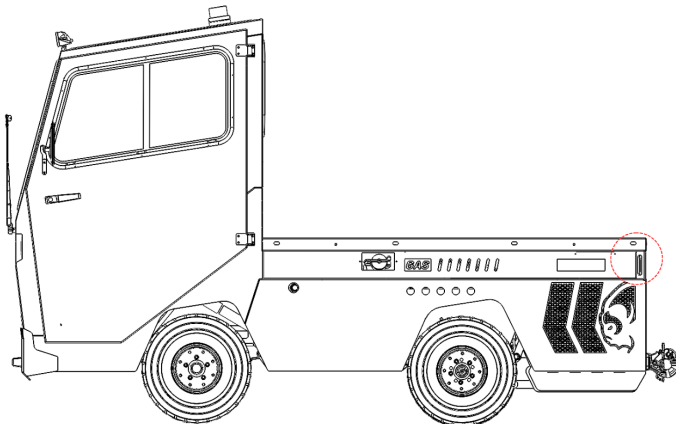

Figure 39. Side Panels.
- Side panels corners (both sides). There is a possibility of cracks occurring in these corners as they undergo significant stress (see Figure 39).